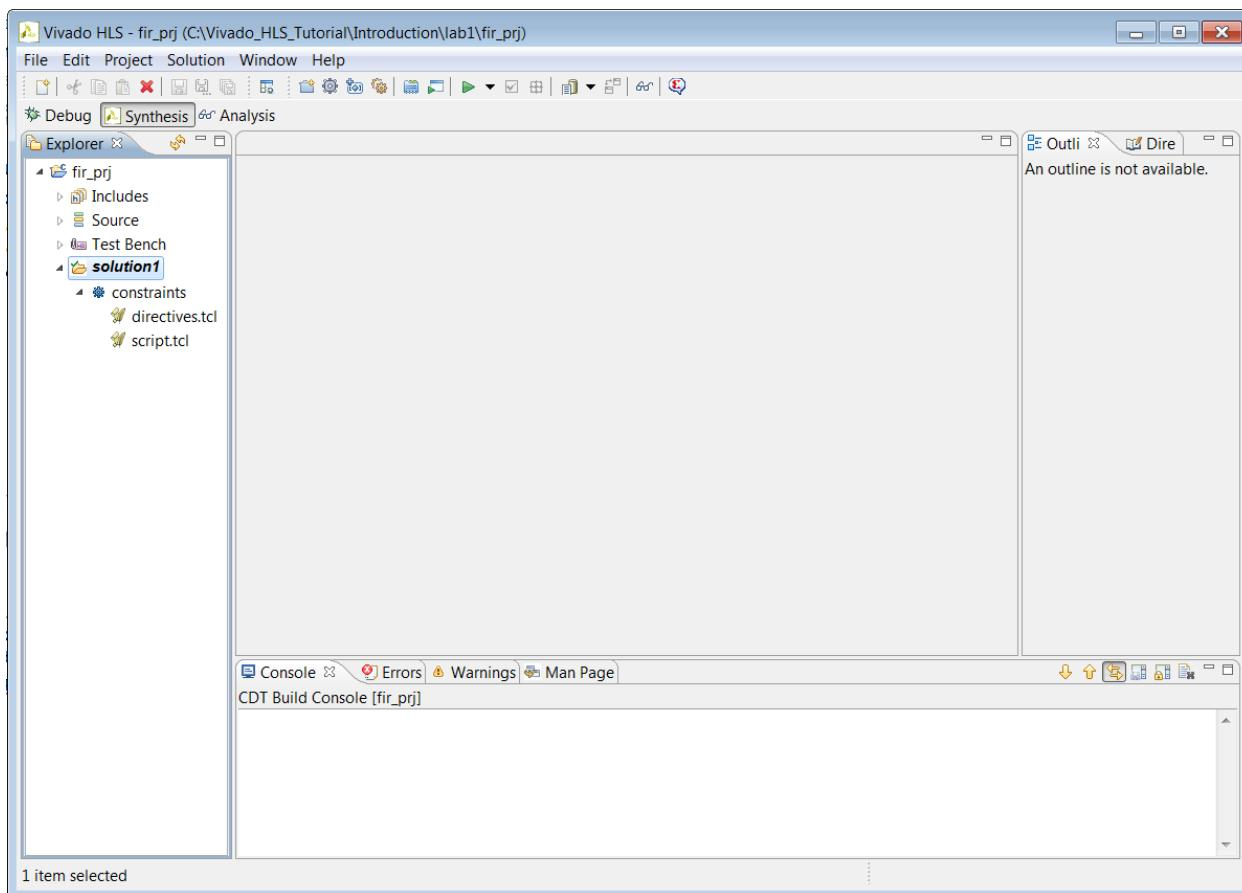

Figure 8: Vivado HLS Project
11. Press **Finish** to open the Vivado HLS project as shown in Figure 8.